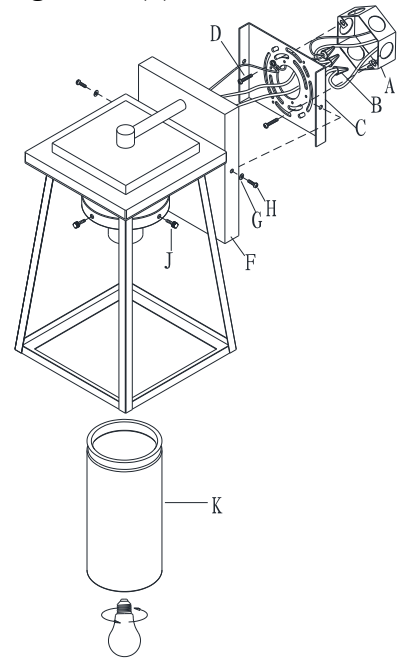

Fig.2
CONNECTION THE WIRES (Fig. 2)
5. Connect the electrical wires as shown in Fig.2. making sure that all wire connectors (B) are secured. If your outlet box has a ground wire (green or bare copper), connect the fixture's ground wire to it. Otherwise, connect the fixture's ground wire directly to the mounting plate using the green screw provided. Tuck the wire connectors neatly into the outlet box.